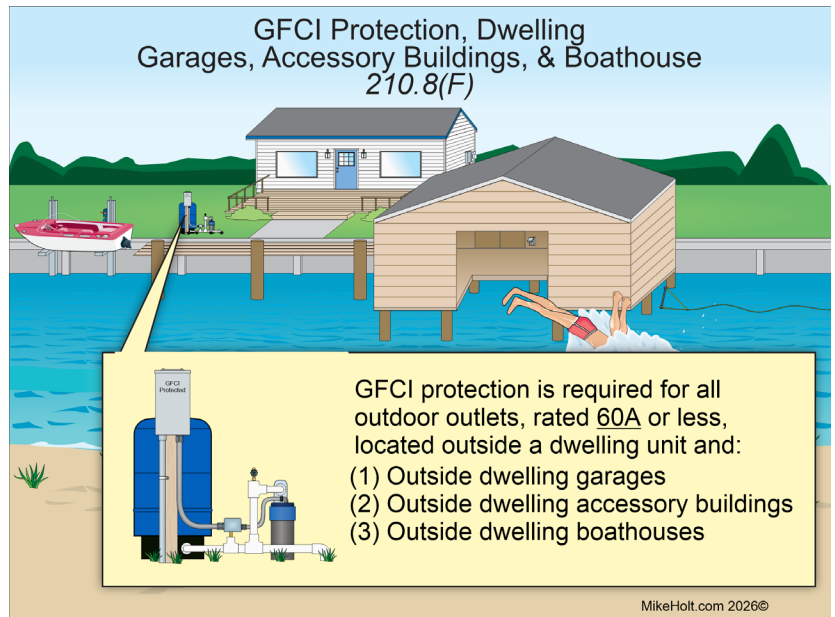

Fig. 7.
(F) Outdoor Dwelling Unit Outlets. GFCI protection is required for all outdoor outlets, rated **60A** or less, located outside a dwelling unit and (Fig. 7 on page 40):
- (1) Outside dwelling garages
- (2) Outside dwelling accessory buildings
- (3) Outside dwelling boathouses